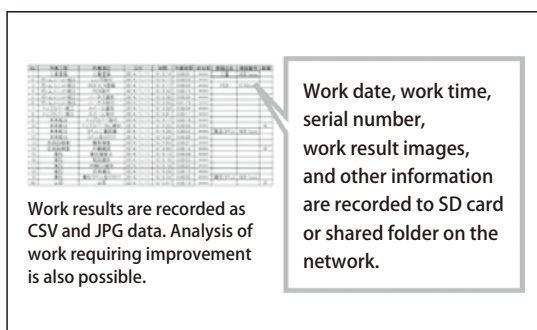

Fig.5 Image of actual data
- Part's serial numbers and images of the assembly condition are collected on SD card or network's shared folder, where they can be kept as performance or image data records, facilitating work analysis and traceability (Fig.5).